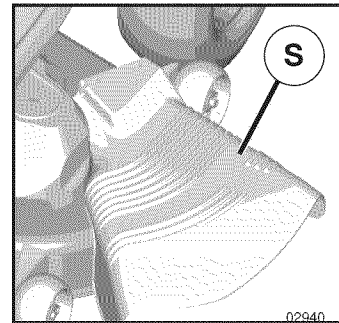

Fig. 13
CAUTION: Do not operate the mower without either the entire grass catcher, on mowers so equipped, or the deflector shield (S) in place (See Fig. 13).